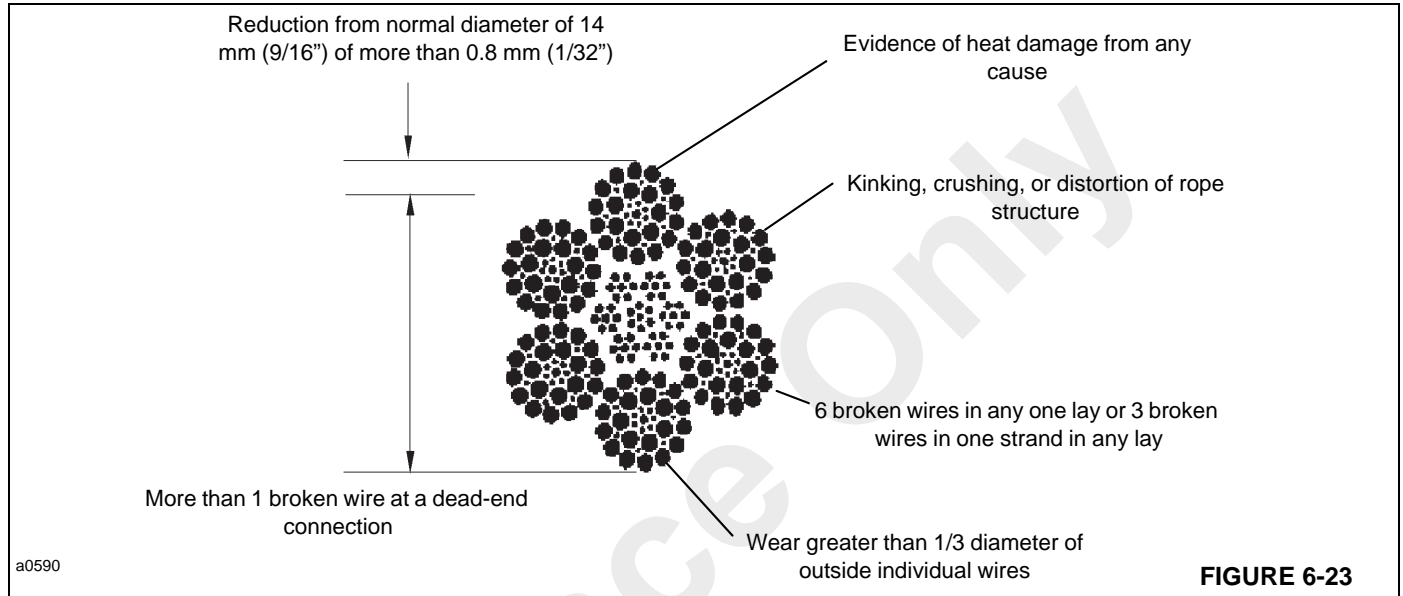

FIGURE 6-23
1. **Wire Rope** - Inspect for damage, rust or wear to the wire rope. Keep a record of each inspection. Replace the wire rope if any of the conditions in Figure 6-23 are present.